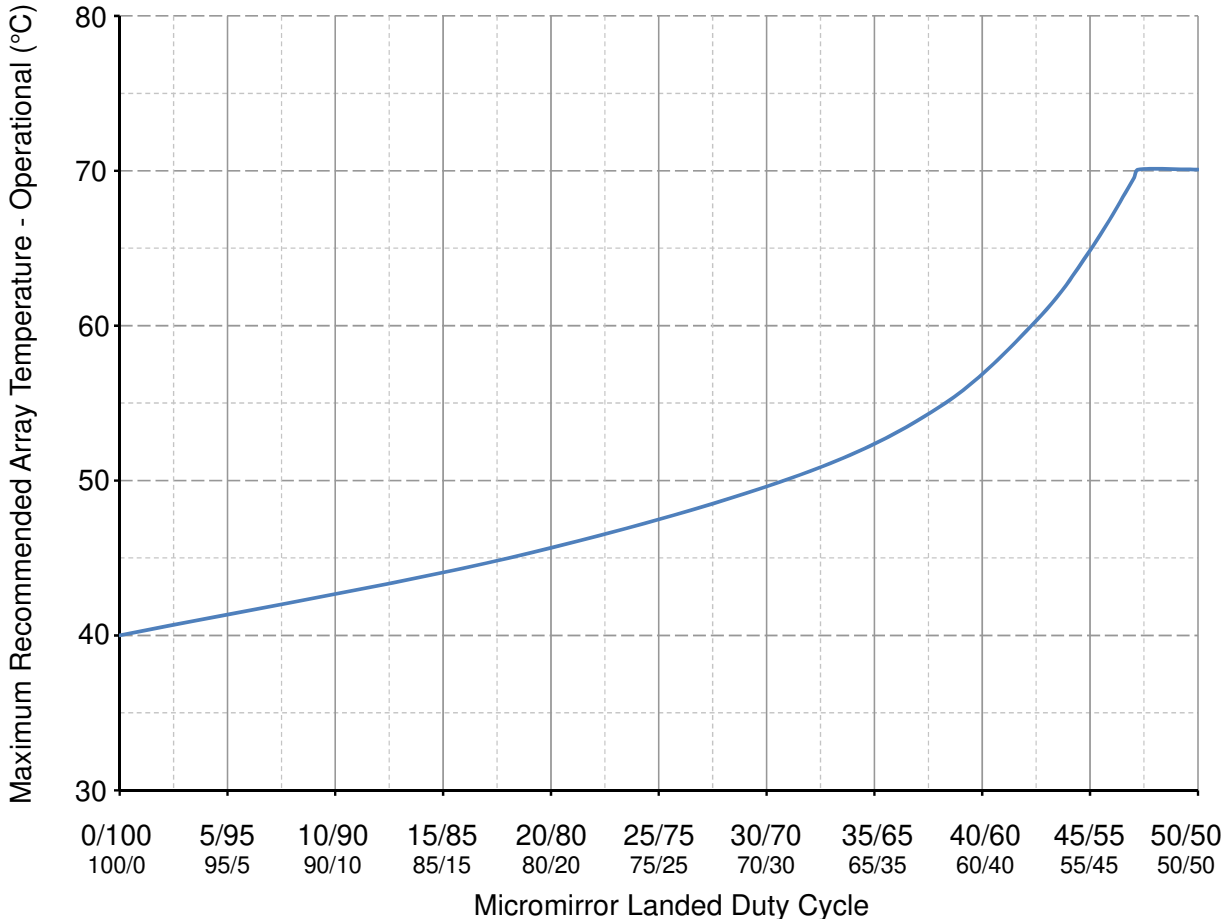

Figure 5-1. Maximum Recommended Array Temperature—Derating Curve
- (11) Long-term is defined as the usable life of the device.
- (12) Per Figure 5-1, the maximum operational array temperature should be derated based on the micromirror landed duty cycle that the DMD experiences in the end application. See Section 6.8 for a definition of micromirror landed duty cycle.
- (13) Short-term is defined as cumulative time over the usable life of the device.